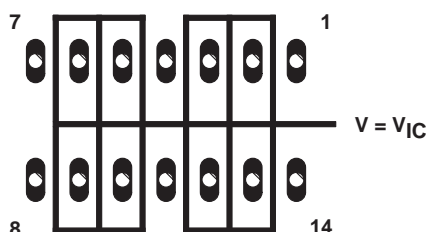
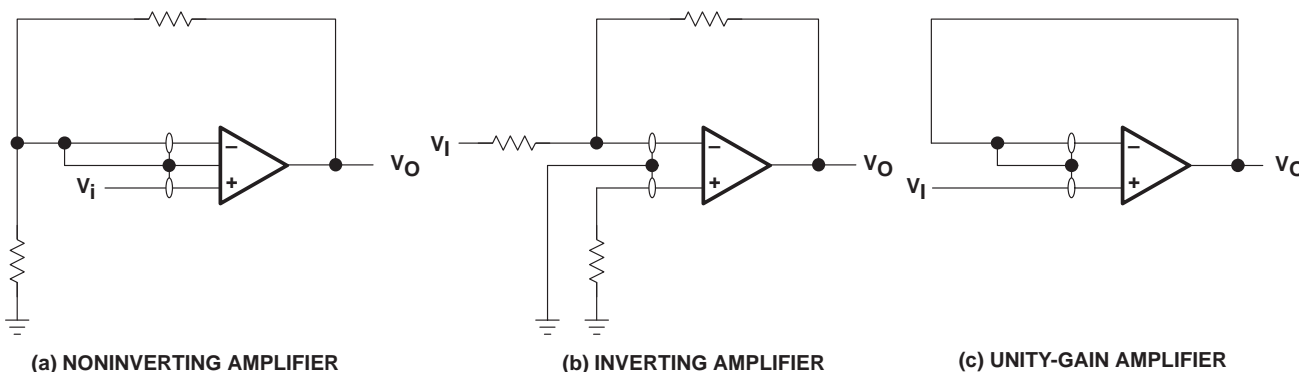

Figure 38. Isolation Metal Around Device Inputs (N or P package)
Figure 42. Guard-Ring Schemes
- Isolate the device from other potential leakage sources. Use a grounded shield around and between the device inputs (see Figure 38). Leakages that would otherwise flow to the inputs are shunted away.
It is good practice to include guard rings around inputs (similar to those of Figure 38 in the Parameter Measurement Information section). These guards should be driven from a low-impedance source at the same voltage level as the common-mode input (see Figure 42).